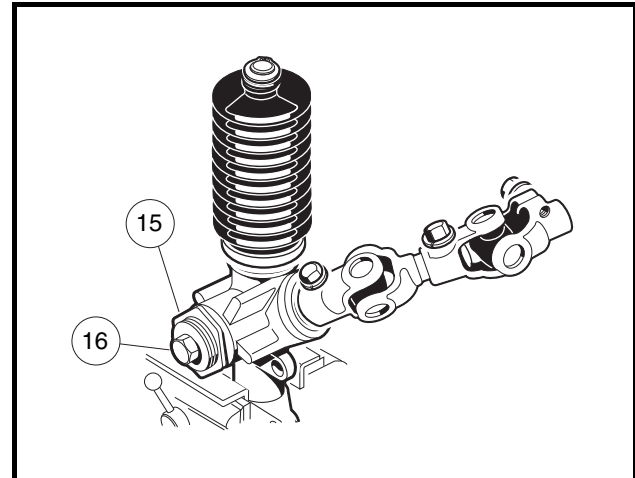

Figure 7-14 Rack and Pinion Adjustment
- 11.4. If measured resistance does not equal 7 to 15 in-lb, loosen the lock nut (15) and tighten the screw (16) until it bottoms out, then back the screw off one quarter turn. Tighten the lock nut to 28 ft-lb (38 N·m) (Figure 7-14, Page 7-12). See following NOTE.
NOTE: When tightening the lock nut (15) make sure the screw (16) does not change adjustment (**Figure 7-14, Page 7-12**).